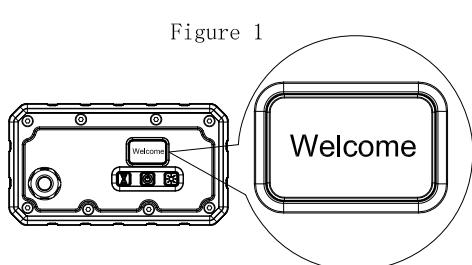

Figure 1
(1) After the mains is plugged in, the screen of the power box displays "WELCOME", then displays the product name and WIFI name, such as figure 1, 2;Then go to the main screen, Luminaire brightness automatically increases from low to maximum!
(2) The mobile phone is connected to this WIFI, user can control the lights by the mobile phone operating interface!